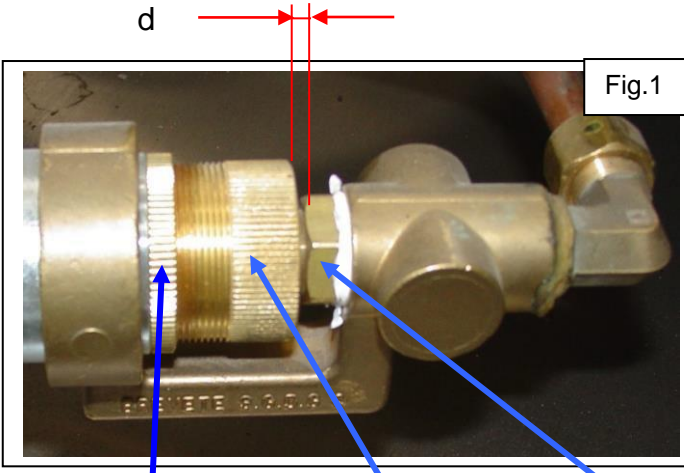
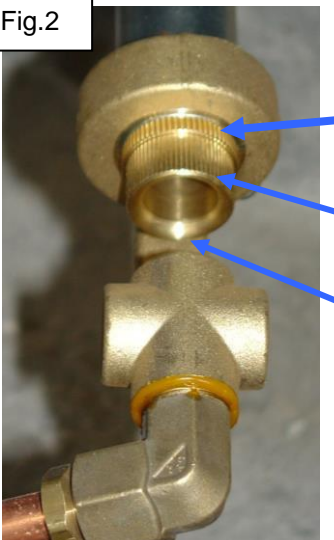

Fig.1
Fig.2
<p>Two fixing screws, on the right and the left, can be reached from the top of the flue. (fig.1) and (fig.2)</p>	<p style="text-align: center;">Fig.1</p>
<p>Remove the screws to lower the retaining tabs under the flue on the left and right sides. (Fig.3)</p>	<p style="text-align: center;">Fig.2</p>
<p>Place the flue above its housing, slide the retaining tabs under the top, and reposition the tabs by refitting the screws mentioned above. (Fig.2)</p>	<p style="text-align: center;">Fig.3</p>
Refer to tables in § 3.2. depending on the burner. (see figs.1 and 2 on page 8)
- Adjust the distance 'd' (Figure 2), re-lock (nut/sleeve), seal in position after adjustment.
- 1 measured power on lower calorific value of gas (HI) for 1 burner.
- 2 Primary air adjustment measured as shown in Figure 1
- 1 Measured power on lower calorific value of gas (HI)